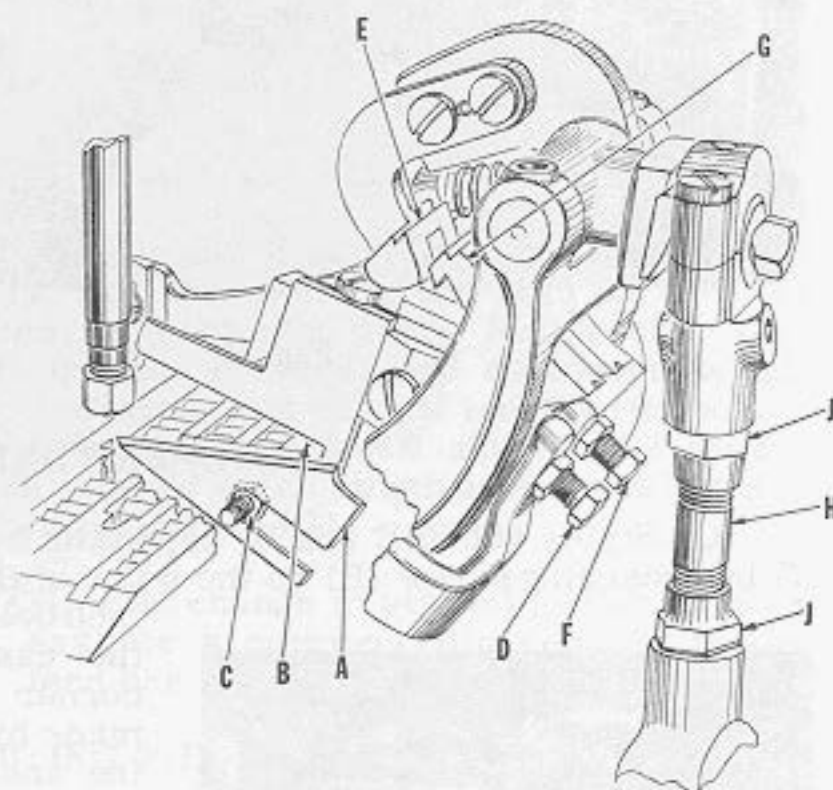
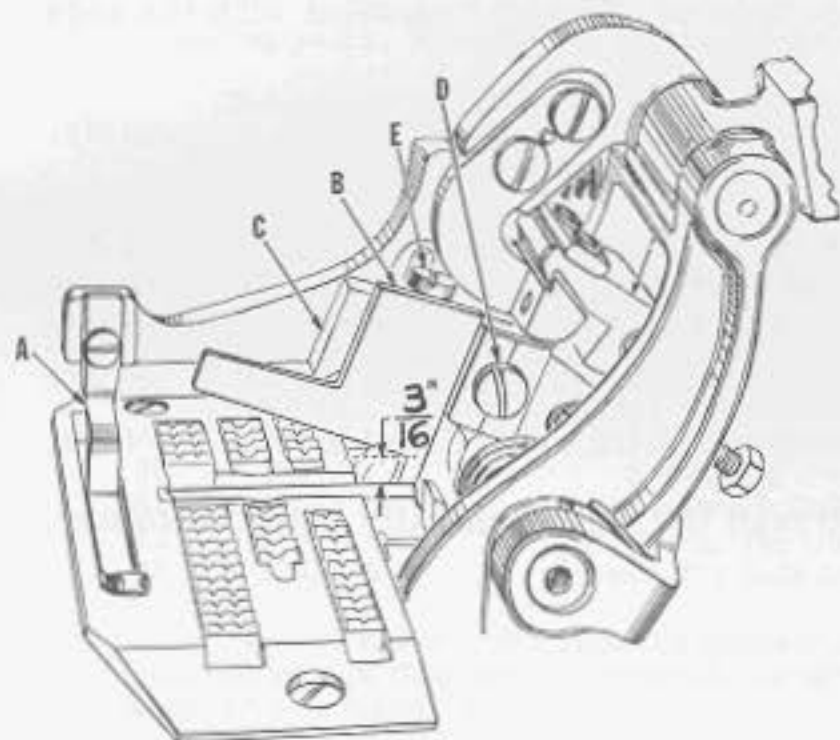
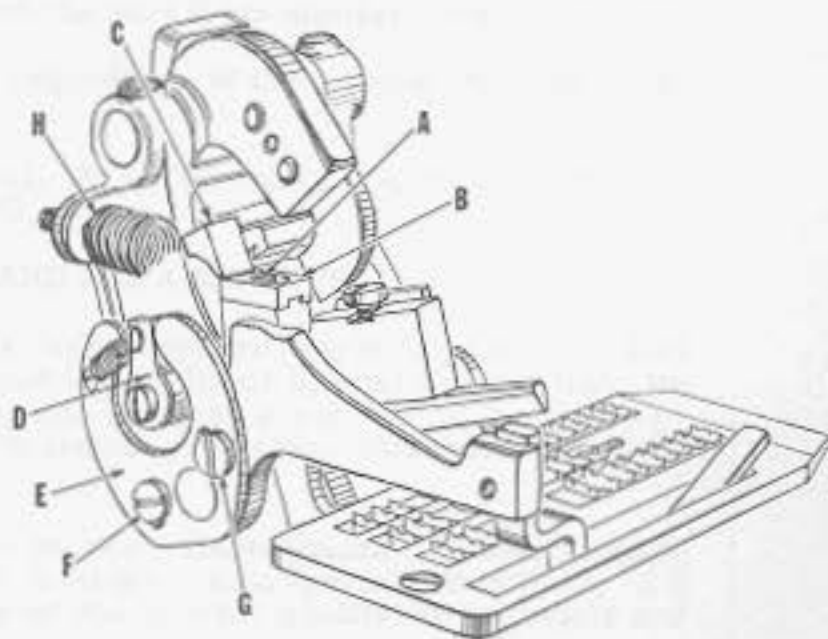

Fig. 8
Fig. 9
Fig. 10
With the throat plate temporarily laid in its seat, set the lower knife (A, Fig. 8) so that the cutting edge is even with the top of the throat plate (B) and tighten in this position with the hexagonal head screw (C). Reassemble needle guard, feed dog and throat plate.
Reassemble actuating shoe (A, Fig. 9). Loosen the hexagonal head adjusting screw (D, Fig. 8) and set, so that the bottom of the actuating shoe is even with the bottom of throat plate (B). Tighten locknut.
Insert upper knife (B, Fig. 9) in upper knife lever (C) and raise it as high as it will go. Tighten clamp screw (D), set stop screw (E) so that it contacts top of knife.
NOTE: As the knives (A, Fig. 8) and (B, Fig. 9) are resharpened, their adjustment is maintained by raising and lowering them in their holders.
Loosen screw (A, Fig. 10) and move shoe (B) to extreme left (or remove if desired). Turn handwheel until pawl (E, Fig. 8) is at its lowest position. Turn screw (F) until ratchet block (G) snaps over pawl (E), then add 1/4 to 1/2 turn more to insure adequate clearance under operating conditions. If screw is turned too far, the mechanism will not work.
If ratchet block and pawl will not engage, it may be necessary to adjust connecting rod (H, Fig. 8) by means of the locknuts (J). The correct center to center distance of the connecting rod should be $4 \frac{1}{16}$ inch. Individual tape clippers may require slightly different settings due to slight accumulation of tolerances in manufacture.
The trip dog operating cam (E, Fig. 10) can be retarded or advanced to vary the length of the tape at the start of the closure. Loosen screws (F and G) and turn the operating cam toward the handwheel end of the machine to shorten the distance and in the opposite direction to lengthen the distance. The actuating shoe tension spring (H) is adjustable for various weights of material.
Move shoe (B, Fig. 10) to right (or reassemble if it was removed) so that pawl (C) will rest on top of the extreme right end of shoe. Shoe should have polished end to the right and point of pawl may overlap slightly over outside to insure trigger action during operation of machine.
When actuating shoe (A, Fig. 9) is raised slightly, trip dog (D, Fig. 10) should allow pawl (C) to slide off shoe (B, Fig. 10) and knife should clip tape within $1 \frac{1}{2}$ turns or less of the handwheel. Make sure that the knives engage for their full length. When open there should be about $\frac{3}{16}$ " opening at the pilot end of the knives (See Figure 9).
The position of the tape cutter actuating shoe (A, Fig. 9) controls the length of tape extending beyond the material at the start of the closure.